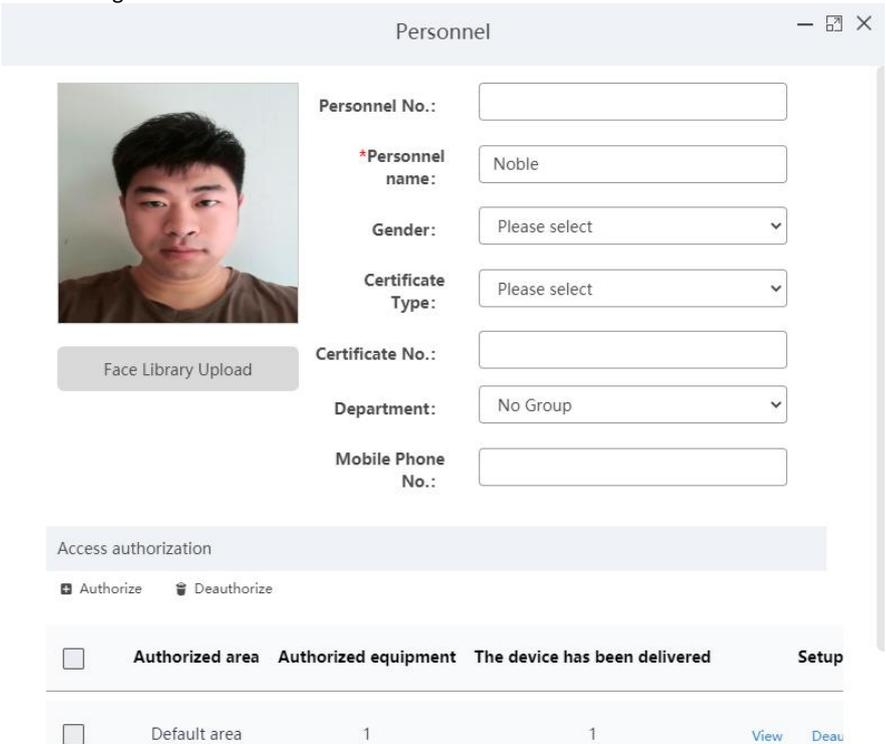

Figure 5-47
Step 2: Choose an organization, click the "✎" of the person to be edited, enter the relevant information of the person, click "Submit" to complete personnel editing, as shown in Figure 5-47 below.